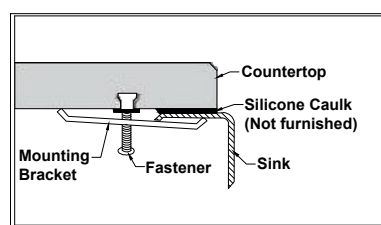

Figure 2
- B. Reveal mount: Sink rim is exposed approximately 1/4" from the edge of countertop opening. (FIGURE 2)